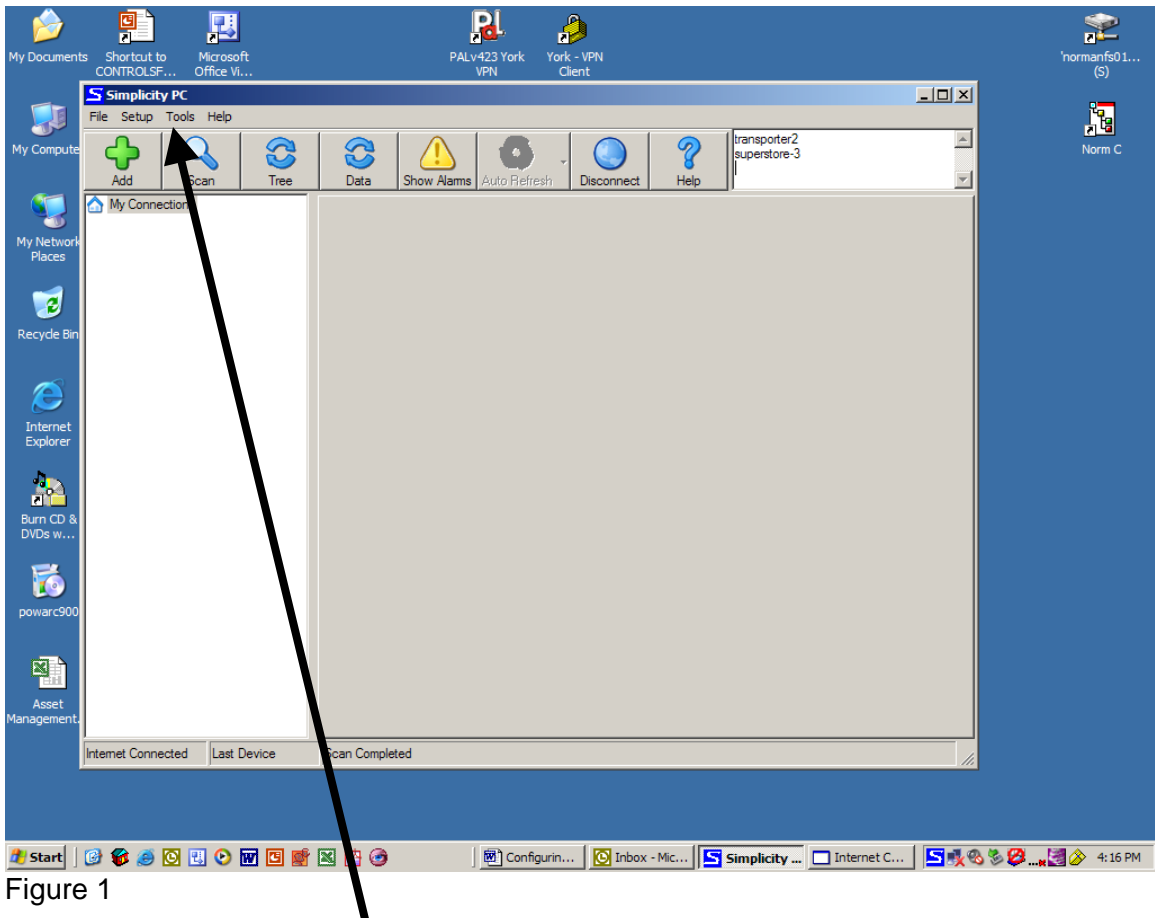

Figure 1
2. Locate and pull down the “Tools” menu in the upper left-hand of the Simplicity PC window. See figure 1.